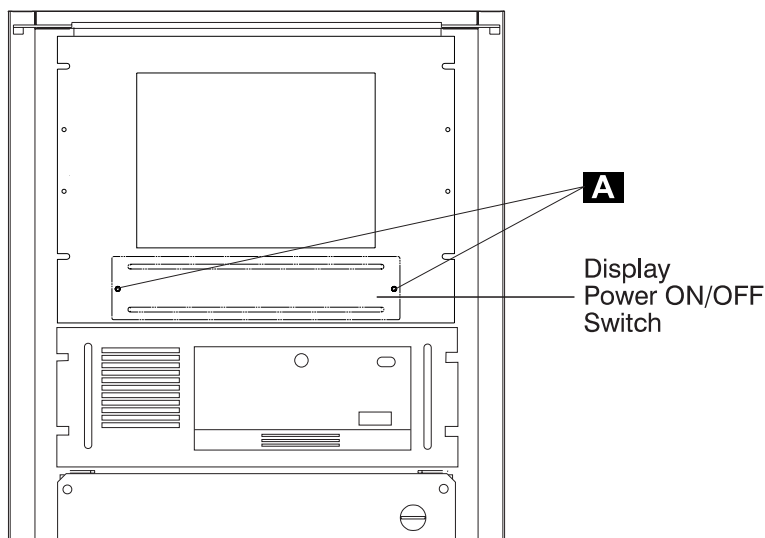

Figure 6-19. Display Power ON/OFF Switch
2. Before leaving do not forget to Switch OFF the display of the NAS. If you display is installed in the rack and similar to the following figure (Figure 6-19) continue with the Step 3. Otherwise go to Step 7.